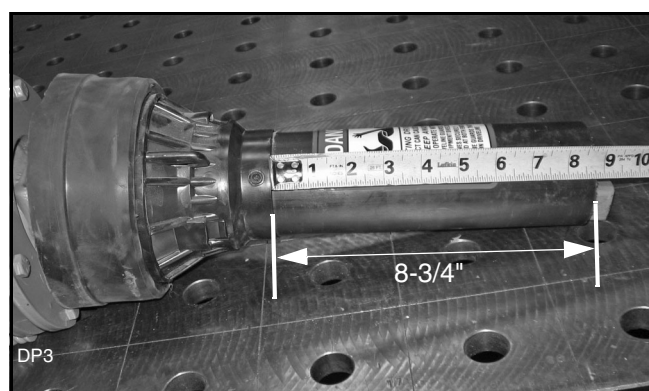

Figure 21. Slip Clutch Drive Shield
2. Cut slip clutch drive shield to 8-3/4" as shown in Figure 21.